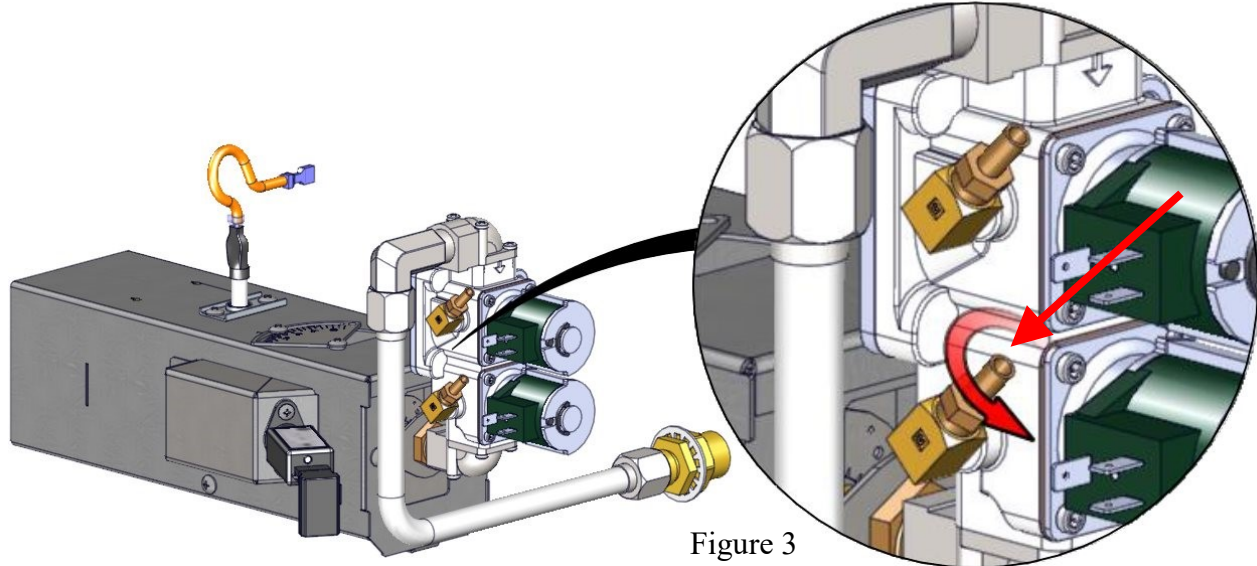

Figure 3
- Loosen adjustment screw one (1) full turn counter-clockwise (Figure 3)